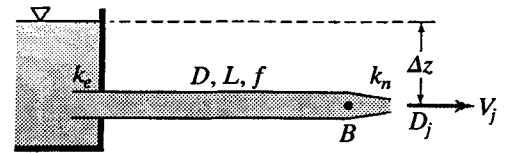

Figure X8.27.1
8.27.1 An 8-in-diameter pipeline ($f = 0.028$) 500 ft long discharges a 3-in-diameter water jet into the atmosphere at a point which is 250 ft below the water surface at intake (Fig. X8.27.1). The entrance to the pipe is reentrant with $k_e = 0.9$, and the nozzle loss coefficient is 0.045. Find the flow rate and the pressure head at the base of the nozzle.